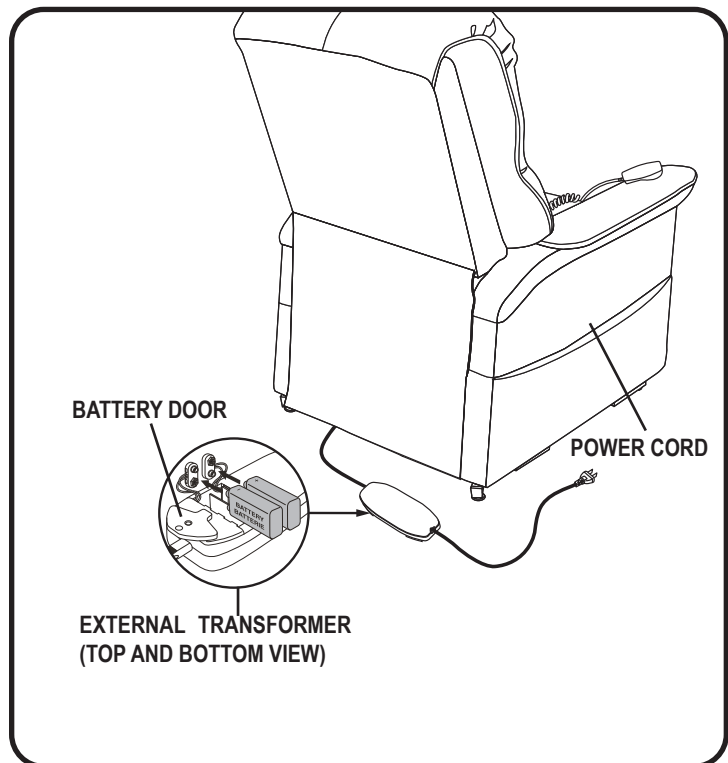

Figure 4.4 Chair Battery Back-up Location
3. Install two 9V batteries in the external transformer (fig. 4.4).
**NOTE:** Always make sure the external transformer is equipped with two fresh 9V batteries, since the battery back-up system does not recharge itself. Fresh batteries are defined as 9V alkaline batteries that are replaced every time the battery back-up system is activated during a power failure, or once every six (6) months if the battery back-up system has not been activated. For best performance, heavy duty or industrial strength alkaline or non-rechargeable lithium-ion 9V batteries should be used. Ensure that the marked battery door is replaced after installing new batteries. Failure to replace 9V batteries as recommended may result in your chair not operating in the event of a power failure.